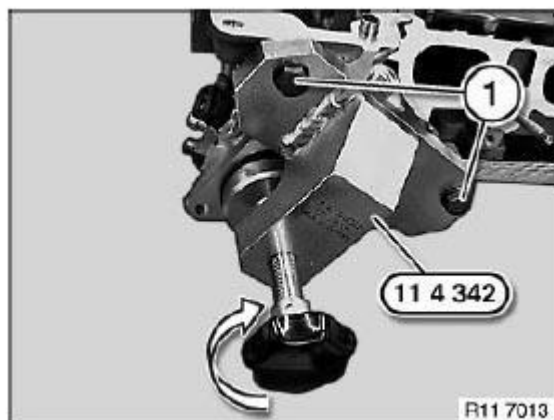

Fig. 59: Inserting Knurled Screw
Fit special tool 11 4 342 with bolts (1), insert knurled screw in direction of arrow. See Fig. 59.